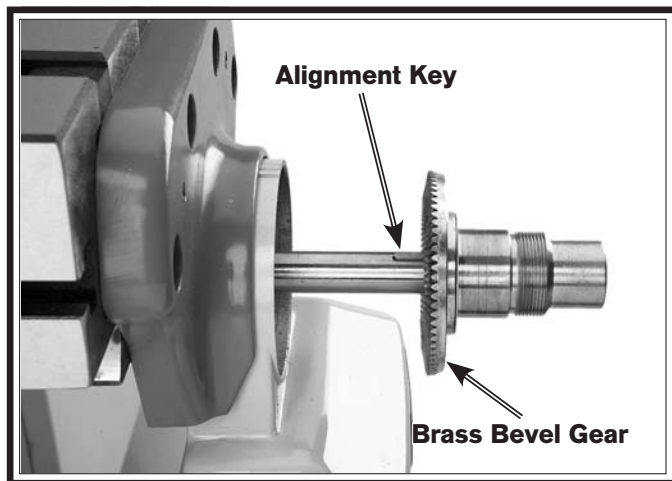

Figure 54. Power feed brass gear and leadscrew alignment key.
4. Remove the brass bevel gear from the leadscrew, then remove the leadscrew alignment key (see **Figure 54**).